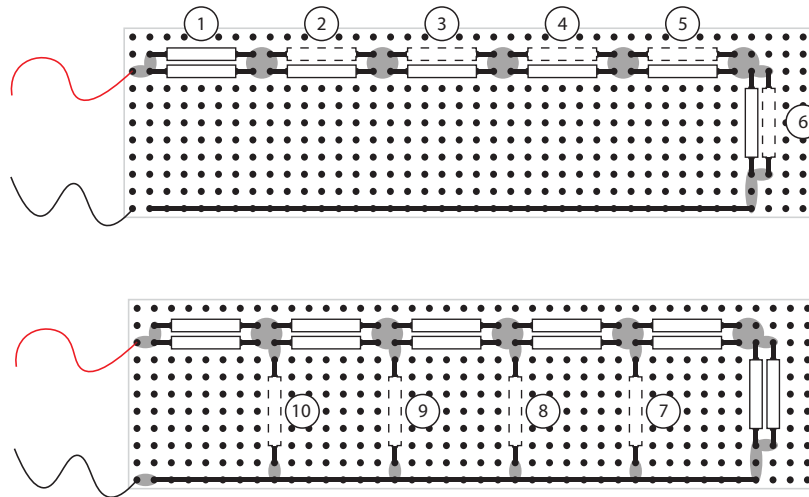

Figure 1.8: Completion of the initial circuit to the full ladder network.
4. Add the resistors from 1 to 10 as it is shown in Figure 1.8. What is the value of the final resistance (between the two terminals)?